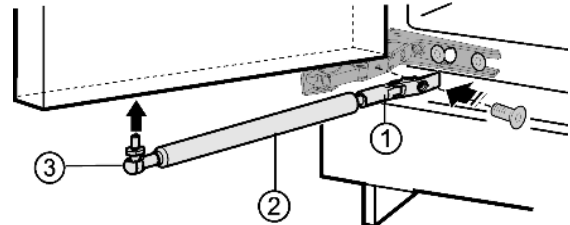

Fig. 5
- Screw on the holder Fig. 5 (1).
- Screw the ball stud Fig. 5 (3) together with the soft stop mechanism Fig. 5 (2) into the fastening hole.